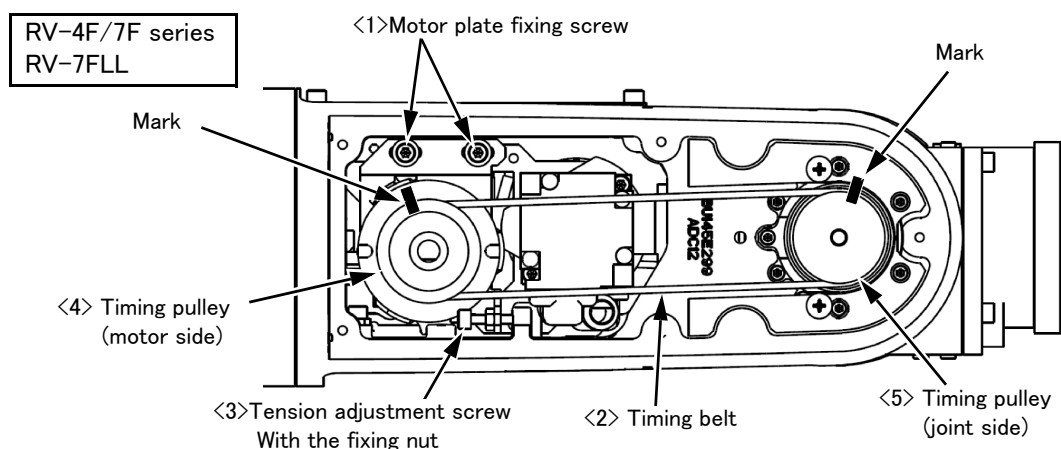
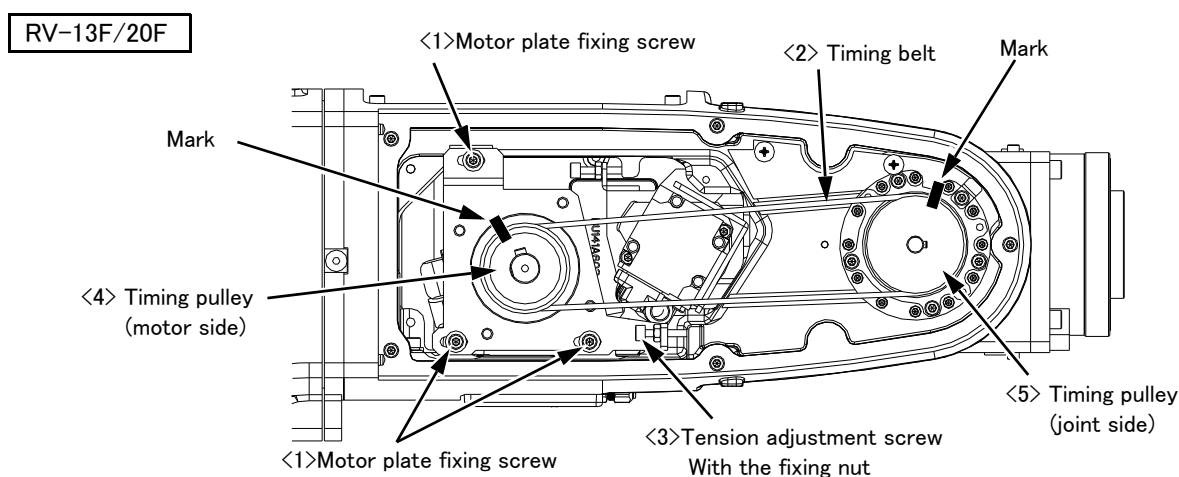

Fig.5-10 : Inspection, maintenance and replacement of J5 axis timing belt (RV-4F/7F series, RV-7FLL)
Fig.5-11 : Inspection, maintenance and replacement of J5 axis timing belt (RV-13F/20F)
The reference figure at inspection, adjustment, and replacement of the timing belt is shown in Fig. 5-10 (RV-4F/7F series, RV-7FLL) or Fig. 5-11 (RV-13F/20F).
- 3) Make marks on the timing belt <2> and timing pulleys <4> and <5> with a felt-tip pen as shown in Fig. 5-10 (RV-4F/7F series, RV-7FLL) or Fig. 5-11 (RV-13F/20F), so that the engagement of the timing belt <2> and timing pulleys <4> and <5> does not deviate.